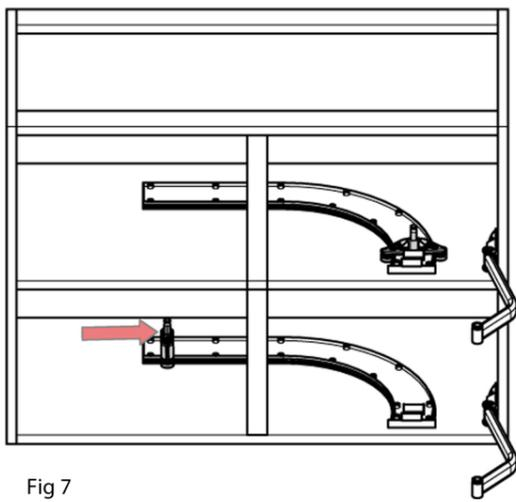

Fig 7
3) Attach the pivoting guides to the floor tracks as shown. (Fig 7)